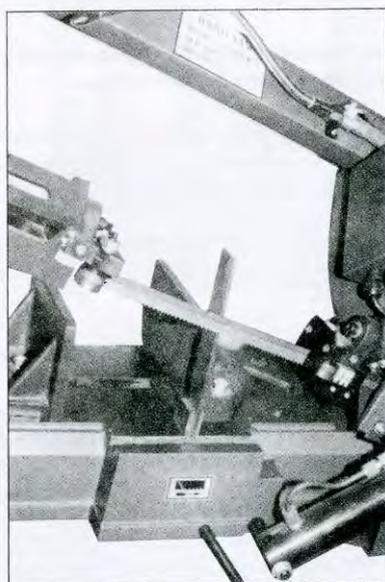

Fig.11
2. Place machinist's square on table next blade as pictured in Fig.11.
4. If adjustment is necessary, loose bolts (A, Fig.11) and rotate blade guide assemblies slightly in the same direction until blade makes contact with the square along it's entire width.
5. Tighten bolts (A).